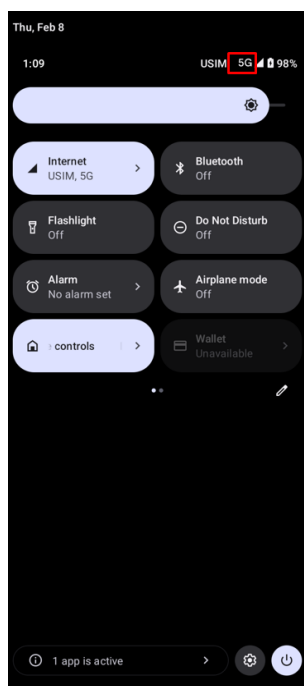

Figure 5-1: UE successfully registered on the 5G SA network — the 5G indicator appears in the status bar (highlighted).
2. UE registration: power on test UE — 5G/4G indicator within 15 seconds (see Figure 5-1)